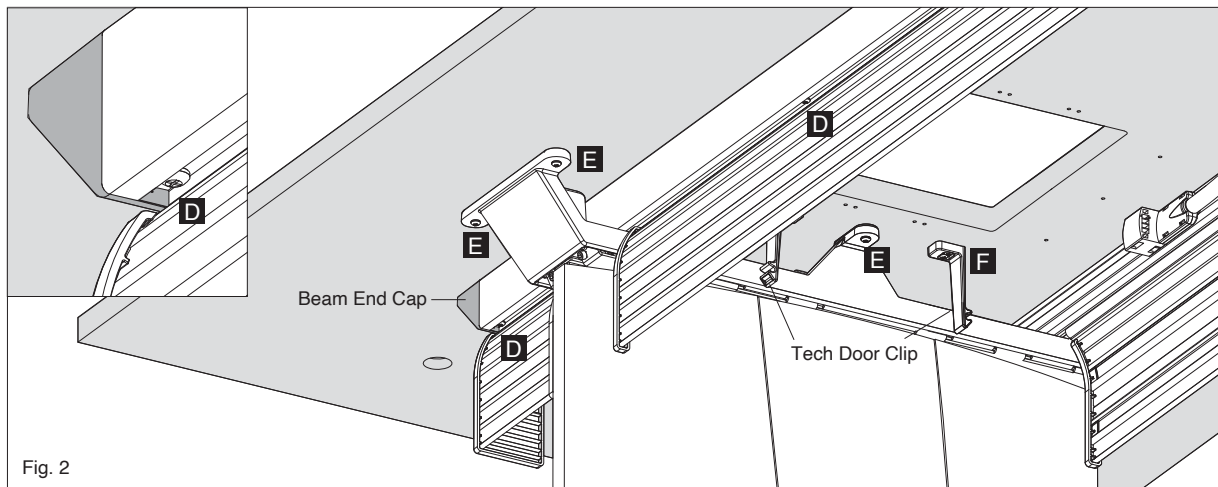

Fig. 2
**Start screws (D) through beam end caps and beams in to pilot holes in the table top.** After all beam screws are started, finish tightening all beams screws from the center to the ends. See Fig. 2.
**Install screws (E) through bracket casting holes into pilot holes in the table top.** (6 screws/bracket). See Fig. 2.
**Install each door clip with screws (F) into pilot holes in the table top.** (2 screws/clip). See Fig. 2.